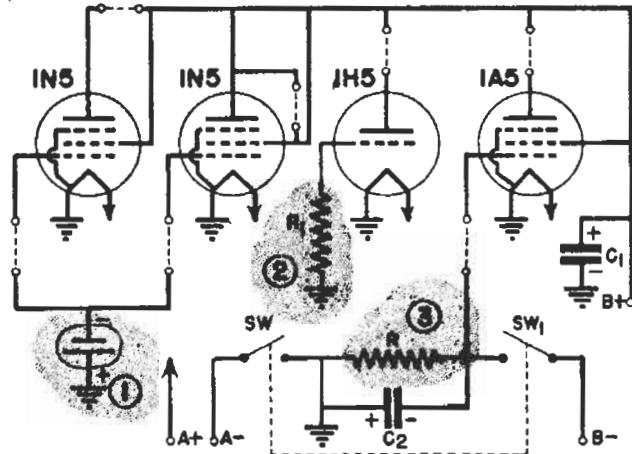

FIG. 27. Three biasing methods are shown here: 1, bias cell; 2, convection current; and 3, automatic bias.
complete battery supply circuit in Fig. 27.
Two switches are "ganged" (connected) together in most battery sets and are used to turn the set ON or OFF. In Fig. 27, switch SW is the *actual* ON-OFF switch. When turned OFF, this switch opens the filament circuit and thus stops tube emission, which prevents the flow of plate current. The second switch, SW_1 in Fig. 27, serves to open the B supply circuit to prevent leakage paths from draining the B battery. This is necessary because, in many sets, by-pass condenser C_1 is an electrolytic, used to keep signal currents out of the B battery. Since all electrolytic condensers have a certain amount of leakage, there will be a constant drain on the B battery un-
8. Why is switch SW_1 used to open the B supply circuit when turning off a battery receiver like the one shown in Fig. 27?